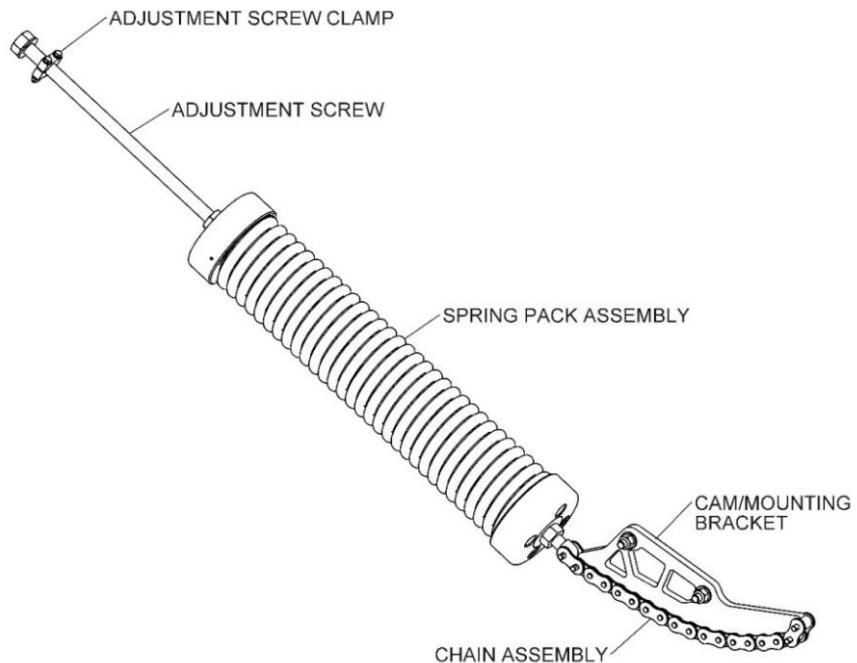
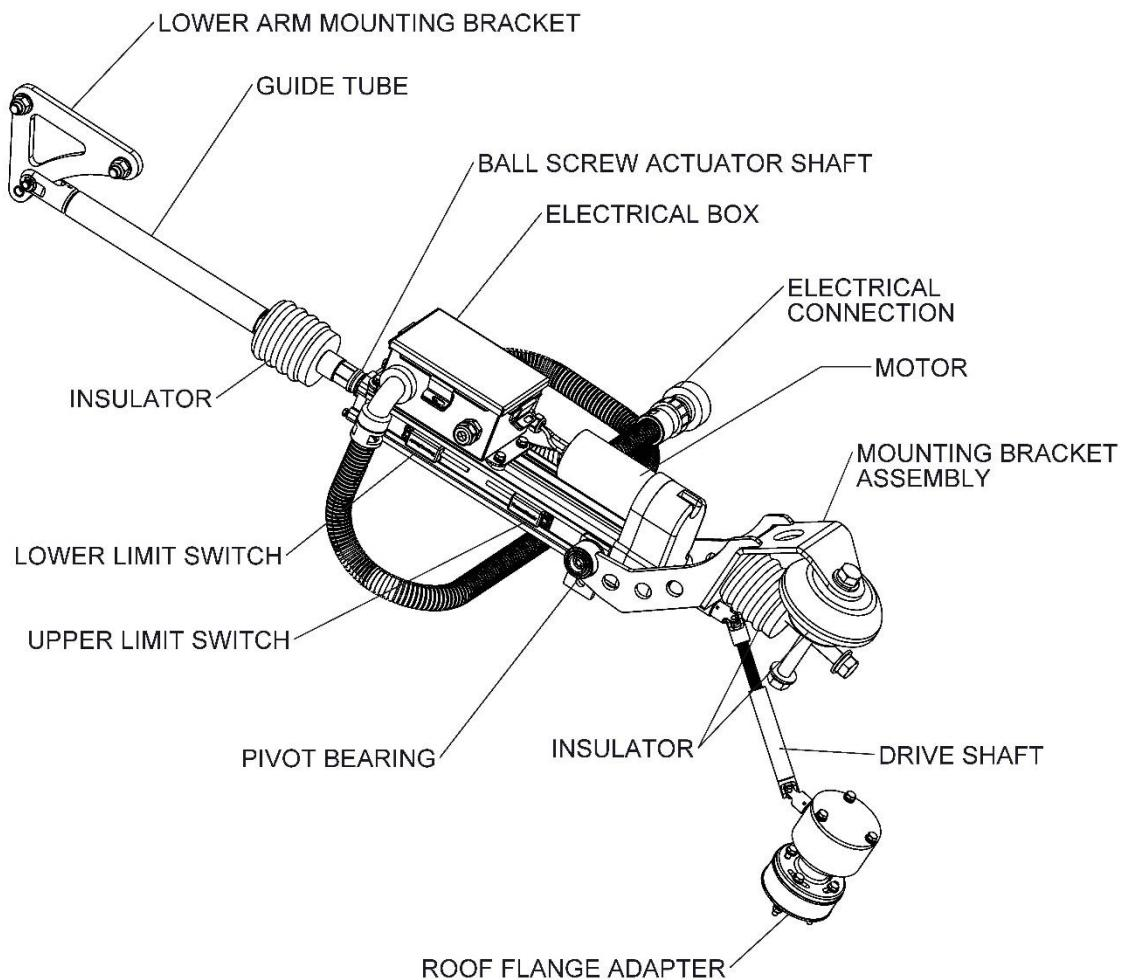

Figure 2-6: Spring Pack Assembly
Figure 2-7: Electric Retraction System
The collector head is raised by two springs working in tandem, in a spring-pack (Figure 2-6), which oppose the weight of the pantograph head and arms. In the lock-down position these springs are under tension and store the energy required to raise the pantograph. The springs track the catenary during operation and generate the upward force required to press the head against the OCS at 20 lbf +/-3.4 lbf (89N +/- 15N). On command from the train's cab the linear ball screw actuator retracts to allow the spring tension to raise the pantograph head. The guide tube, which is attached to the lower arm mounting bracket, is designed to slide back and forth over the shaft of the ball screw actuator to allow for vertical motion variations due to any variations in the OCS wire height (See Figure 2-7). This allows for the continuous OCS wire tracking without requiring any movement in or out of the ball screw actuator.
Lowering is achieved by an electric retraction system (See Figure 2-7) installed between the base frame and the lower arm. The retraction system's actuator is not active during wire tracking. When the pantograph lowering sequence is employed, the ball screw actuator shaft extends, opposing the forces generated by the raising springs, thereby lowering the pantograph head. The ball screw actuator shaft, when fully extended, places the pantograph in the lock-down position.
The electric retraction system runs on low voltage DC power. It is mounted between the base frame and the lower arm and is electrically insulated from the high voltage main assembly components by three (3) insulators. See Figure 2-7. The electric retraction system counters the lifting force exerted by the main spring.
When retracted the retraction system is retained in the lowest position by a holding brake in the motor. See Figure 2-7. This mechanical locking brake is effective even when electrical power is interrupted and it does not inhibit raising the pantograph with the manual crank.
The drive motor is powered from the low voltage DC car supply through the electrical connection. See Figure 2-7. The retraction system contains two magnetic limit switches (Lower Limit Switch, Upper Limit Switch) that provide momentary signals to stop the motor drive at the fully up and fully down positions. See Figure 2-7. These two limit switches are normally closed and will open when they contact the magnet that travels back and forth inside the ball screw actuator. When the limit switches open they interrupt the circuit, providing the signal to the car to stop the motor. The ball screw travels between the fully up and fully down positions that are set by the limit switches. The ball screw does not stop at any other position in-between.
1. Wipe grease and debris from the spring chain (Figure 2-6) using a clean dry lint free rag to allow for visual inspection.